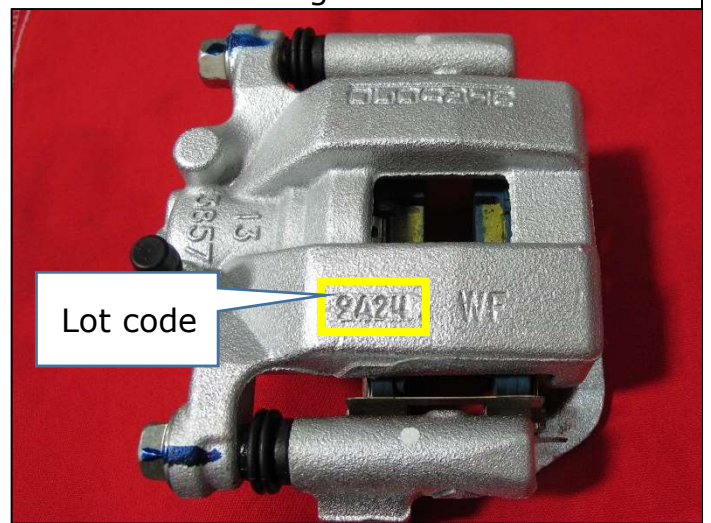

Figure 4
3. Inspect the Lot code on the LH rear brake caliper. (Figure 4)